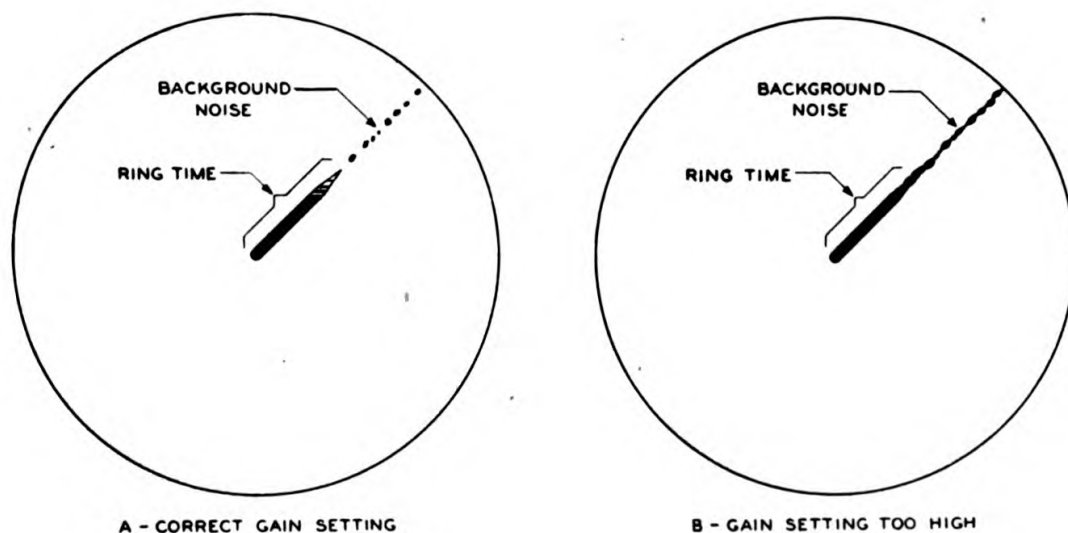

Figure 4. Correct gain setting on PPI scope.
c. Adjust the PPI gain and intensity controls until a distinct separation is seen between the end of the echo box signal and the noise pulses (fig. 4).